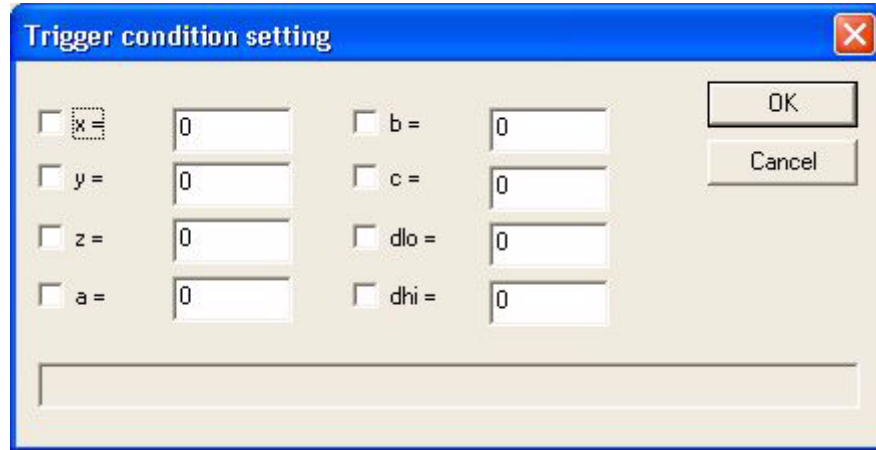

Figure 6-30. Trigger Condition Setting Dialog Box
- **APG register:** Triggering by the APG register is optional. Selecting this check box and its button displays the Trigger Condition Setting dialog box (Figure 6-30 on page 246) that allows you to also specify triggering by the contents of the x, y, and z address generators, the a, b, and c counters, and/or the dlo and dhi data generators. It supports multiple choices and the "AND" operation will be applied to the multiple choices. A value must be specified for a register whose check box is selected. For example, if $x=0$, $y=3$, and $z=0$ are the selected conditions, this means the waveform capture is started when $(x=0)\&(y=3)\&(z=0)$.